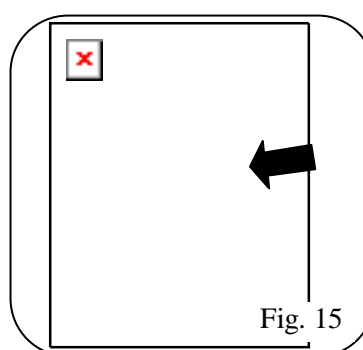

Fig. 15
- Lower the hydraulic cylinder until it touches the front catch. (Fig. 15)